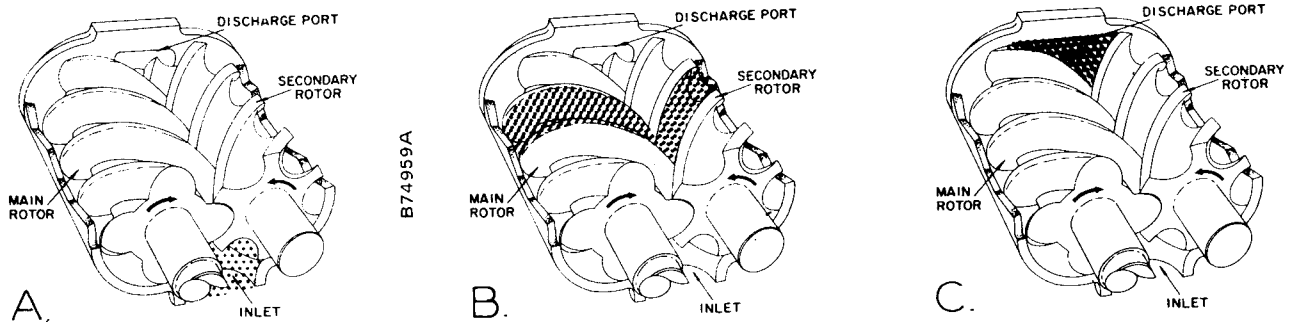

FIGURE 1-1. — COMPRESSION CYCLE
COMPRESSION PRINCIPLE (Figure 1-1) — Compression is accomplished by the main and secondary rotors synchronously meshing in a one-piece cylinder. The main rotor has four (4) helical lobes 90° apart. The secondary rotor has six (6) matching helical grooves 60° apart to allow meshing with main rotor lobes.
The air inlet port is located on top of the compressor cylinder near the drive shaft end. The discharge port is near the bottom at the opposite end of the compressor cylinder. *Figure 1-1 is an inverted view to show inlet and discharge ports.* The **compression cycle** begins as rotors unmesh at the inlet port and air is drawn into the cavity between the main rotor lobes and secondary rotor grooves (A). When the rotors pass the inlet port cutoff, air is trapped in the interlobe cavity and flows axially with the meshing rotors (B). As meshing continues, more of the main rotor lobe enters the secondary rotor groove, normal volume is reduced and pressure increases. Oil is injected into the cylinder by proprietary means to remove the heat of compression and seal internal clearances. The *Electra-Saver II* utilizes *Gardner-Denver's* exclusive Intensive Injection System to feed coolant into the